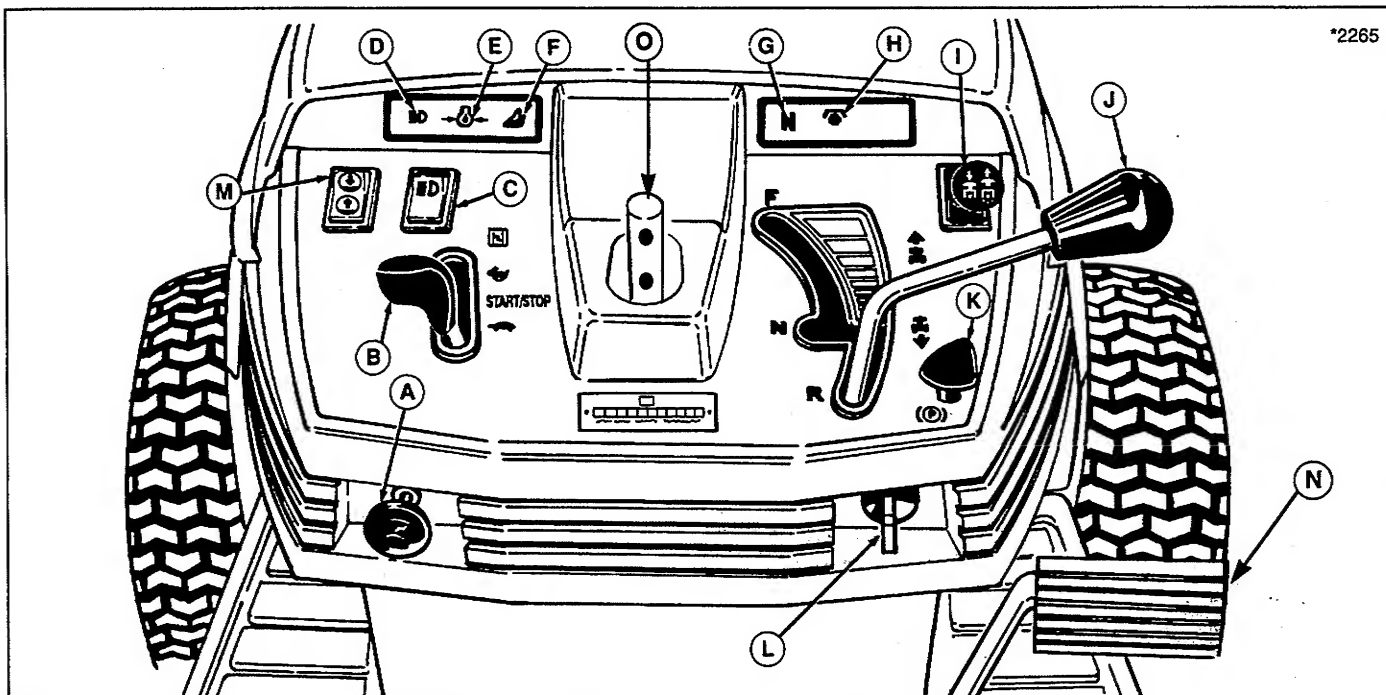
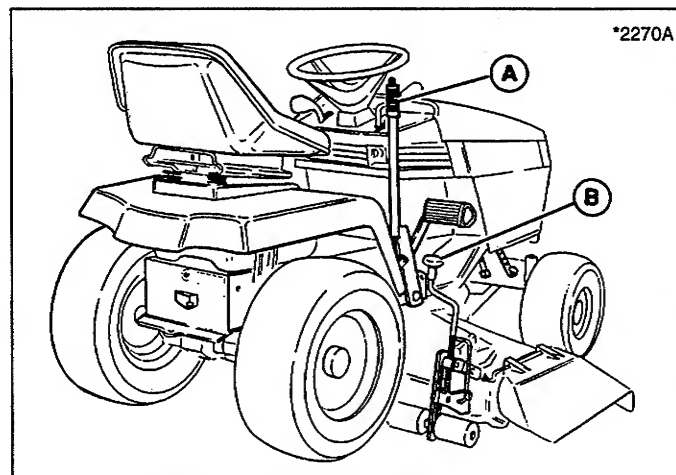
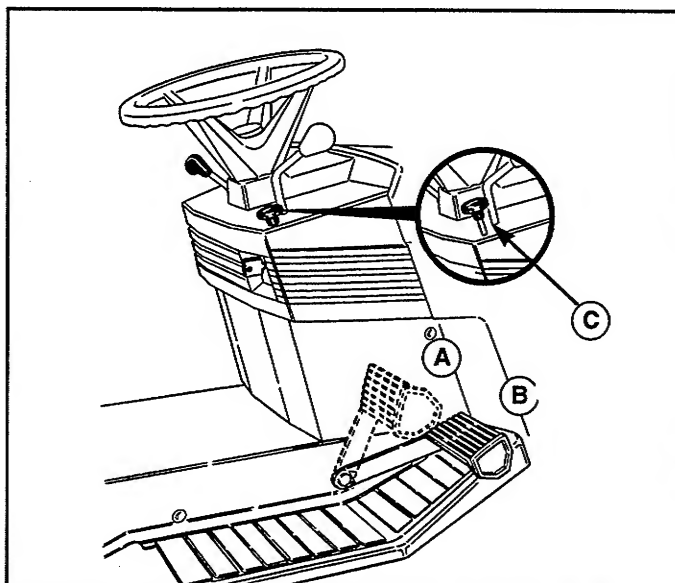
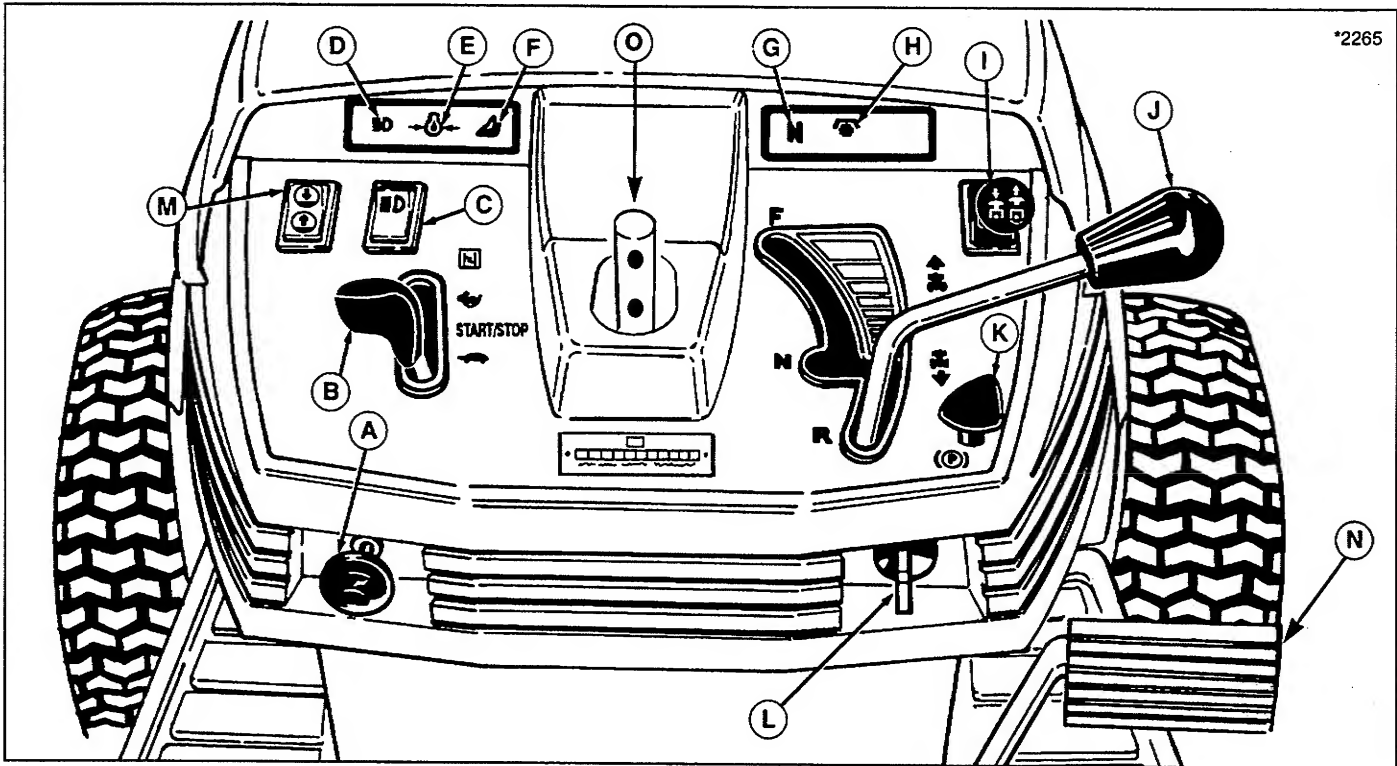

Figure 2. Tractor Controls (Hydro Model Shown)
Figure 10. Mower Operation - Manual Lift
Figure 11. Clutch/Brake Pedal and Parking Brake (Brake Pedal Only - Gear Models)
Figure 13. Tractor Controls (Hydro Model Shown)
- A. Neutral Indicator Light (G, figure 2) should go on with transmission lever in neutral gate and should go out when lever is moved to either the forward or reverse gate.
- B. PTO Indicator Light (H, figure 2) should go on and off with operation of PTO switch.
- C. Oil Pressure Indicator Light (E, figure 2) should be on and should go out immediately after engine starts.
- D. Operator Seated Indicator Light (F, figure 2) should go on when operator is present in the seat and should go off as operator rises out of the seat.
2. Place mower in the lowest cutting position using the mower height adjuster (B, figure 10). Place the mower lift lever (M, figure 2 or A, figure 10) in the lowest position, also. Slide mower deck under right side of tractor so that mower hitch is aligned with front tractor hitch.
2. Place mower in the lowest cutting position using the mower height adjuster (B, figure 10).
3. Place the mower lift lever (A, figure 10 or M, figure 13) in the lowest position.
1. When traveling to or from the work site, fully raise the mower using the mower lift lever (A, figure 10 or M, figure 13). At the work site, lower mower using the lift lever.
2. Use the mower height adjuster (B, figure 10) to set the proper mowing height. See Mowing Patterns & Tips section for cutting height recommendations.
1. See figure 11. Depressing the pedal to position A disengages the transmission drive and, when in a forward gear, returns the transmission control lever to neutral. Fully depressing the pedal to position B applies the tractor brake.
2. Parking brake is applied at pedal position B when parking brake control knob (C, figure 11) is pulled up with pedal fully depressed.
2. See figure 11. Depressing the brake pedal from position A to B applies the tractor brake. Parking brake is applied at position B when parking brake control knob (C) is pulled up with pedal depressed.
Refer to figure 13.
On hydro models, ground speed is infinitely variable according to how far the control lever (J, figure 13) is moved in the forward or reverse position.
On gear models, ground speed is selected by depressing the clutch pedal and moving the control lever (J, figure 13) to the appropriate gear selection.
1. If you are ready to mow, lower the mower from the transport position using mower lift lever (A, figure 11 or M, figure 13) and set the mowing height using the
mowing height adjuster (B, figure 11).
2. Set the engine speed control lever (B, figure 13) for full speed.
3. Use the PTO switch (I) to engage the PTO.
4. Release the parking brake by depressing brake pedal (N, figure 13) and pushing knob (K) down.
5. On hydro models, move the ground speed control lever (J, figure 13) to the desired direction and speed of travel to set the tractor in motion.
6. Adjust engine speed control lever (B, figure 13) to the desired speed. Between 3/4 and full speed is recommended for mowing.
1. **On hydro models,** move the ground speed control lever (J, figure 13) into the NEUTRAL position to make a gradual stop. To make a more rapid stop, depress the clutch/brake pedal (N, figure 13).
On gear models, press the clutch pedal (N, figure 13) down to disengage the clutch for a gradual stop. For a more rapid stop, press the brake pedal down to apply the brake while also depressing clutch pedal to disengage the PTO. Move the ground speed control lever to NEUTRAL before releasing the pedals.
2. Engage the parking brake by fully depressing brake pedal and pulling up on parking brake knob (K, figure 13).
3. Use the PTO switch (I, figure 13) to disengage the PTO.
4. Set the engine speed control lever (B, figure 13) to 1/2 throttle setting and allow the engine to idle for 20 seconds. Stopping a hot engine too fast may cause engine damage.
5. Turn key (L, figure 13) to OFF and remove it.
1. With engine off and key removed, use the PTO switch (I, figure 13) to disengage the PTO.
2. Place the mower in the transport position (up) using the mower lift lever (A, figure 10 or M, figure 13).